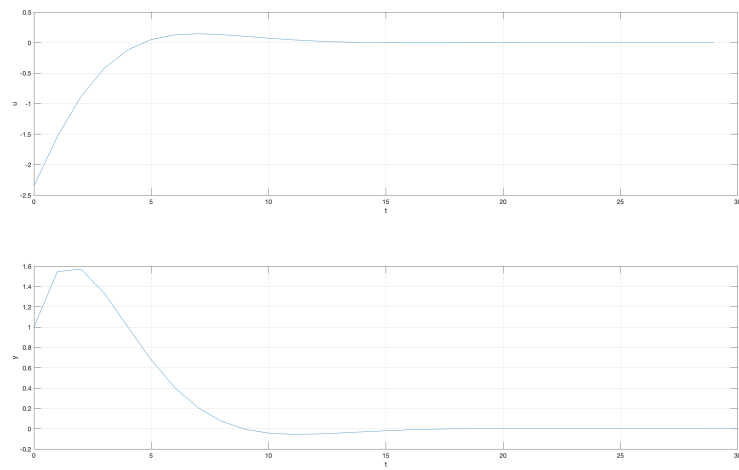

Figure 2:  $u_t$  and  $y_t$  with  $r = 1$ .
- e) The plots in Figure 2, 3 and 4 shows the results with the `quadprog` function with different values of  $r$ . As we can see the solution is the same as in Task d when  $r = 1$ . When we make  $r$  smaller we see that the control inputs are steeper, this is because we allow for larger values of  $u_i$  in the objective function, when we make  $r$  larger the control inputs are smoother since larger control inputs are punished more.